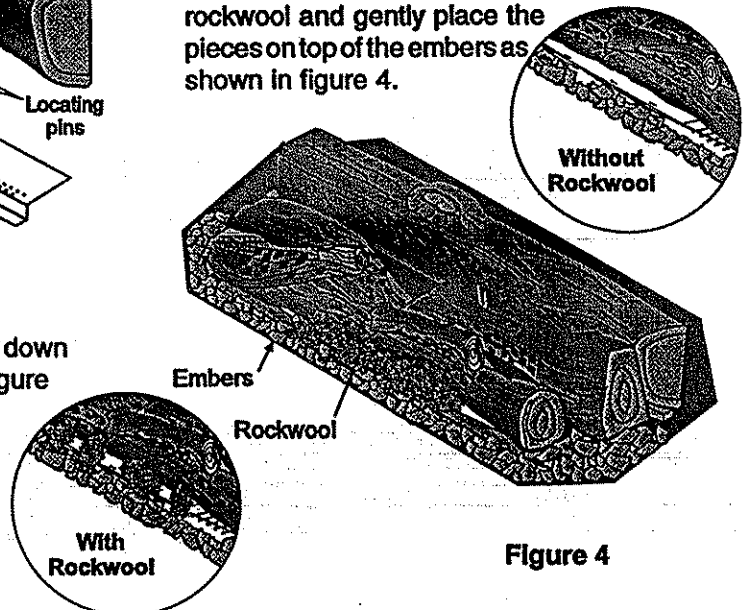

Figure 4
- 5) Distribute the embers on the base of the firebox. Pull off ember size pieces from the rockwool and gently place the pieces on top of the embers as shown in figure 4.